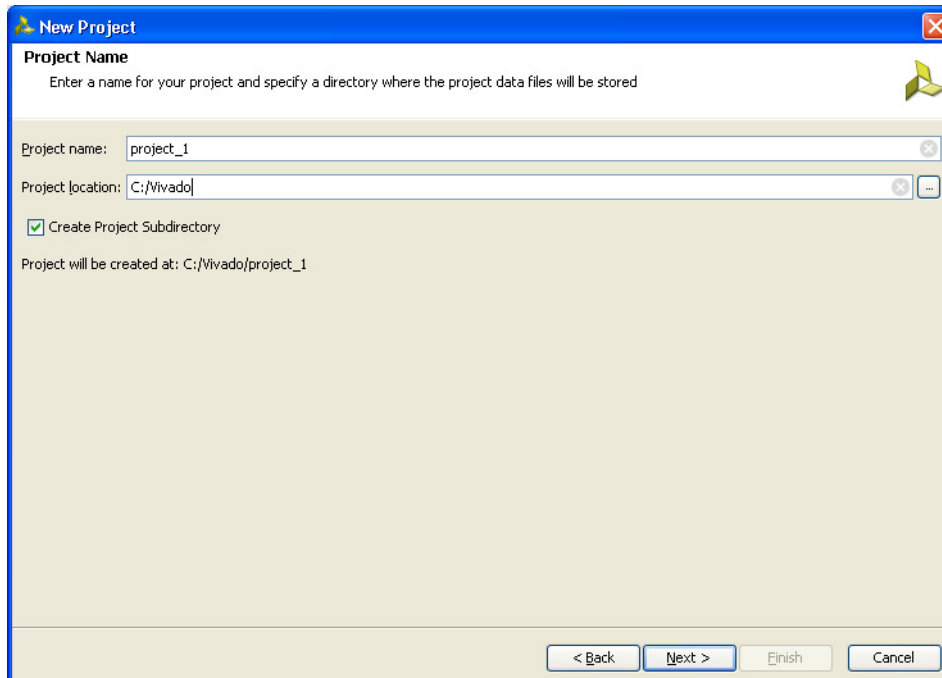

Figure 1-3: Project Name
3. Click **Next** to proceed to the Project Name page (Figure 1-3). Enter the Project Name and Project Location. Based on the details provided, the project is saved in the directory.